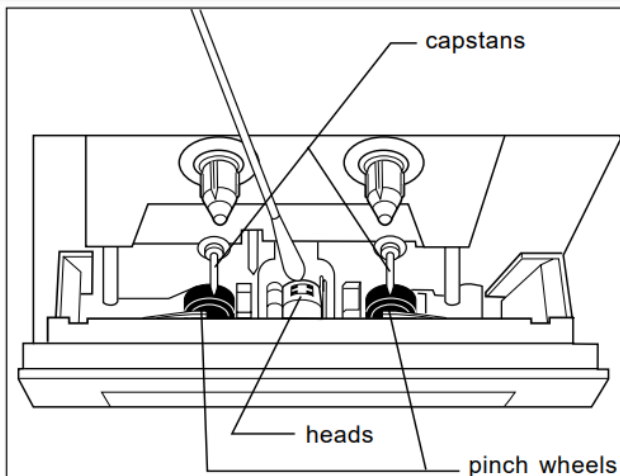

Figure 2
3. As shown in Figure 2, clean the parts which come in contact with the tape, including the heads, capstans, tape guides, pinch wheels, etc., with a cotton swab soaked in the head cleaning solution.